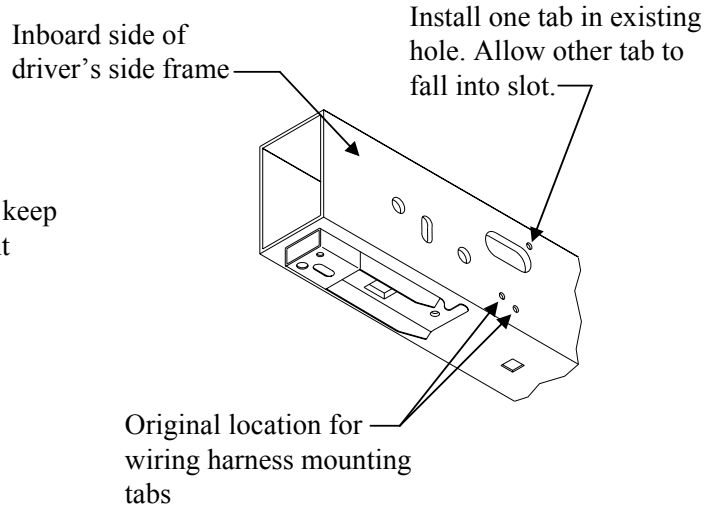

Figure 3
11. Relocate wiring harness. See Figure 3 for suggested relocation of wiring harness.